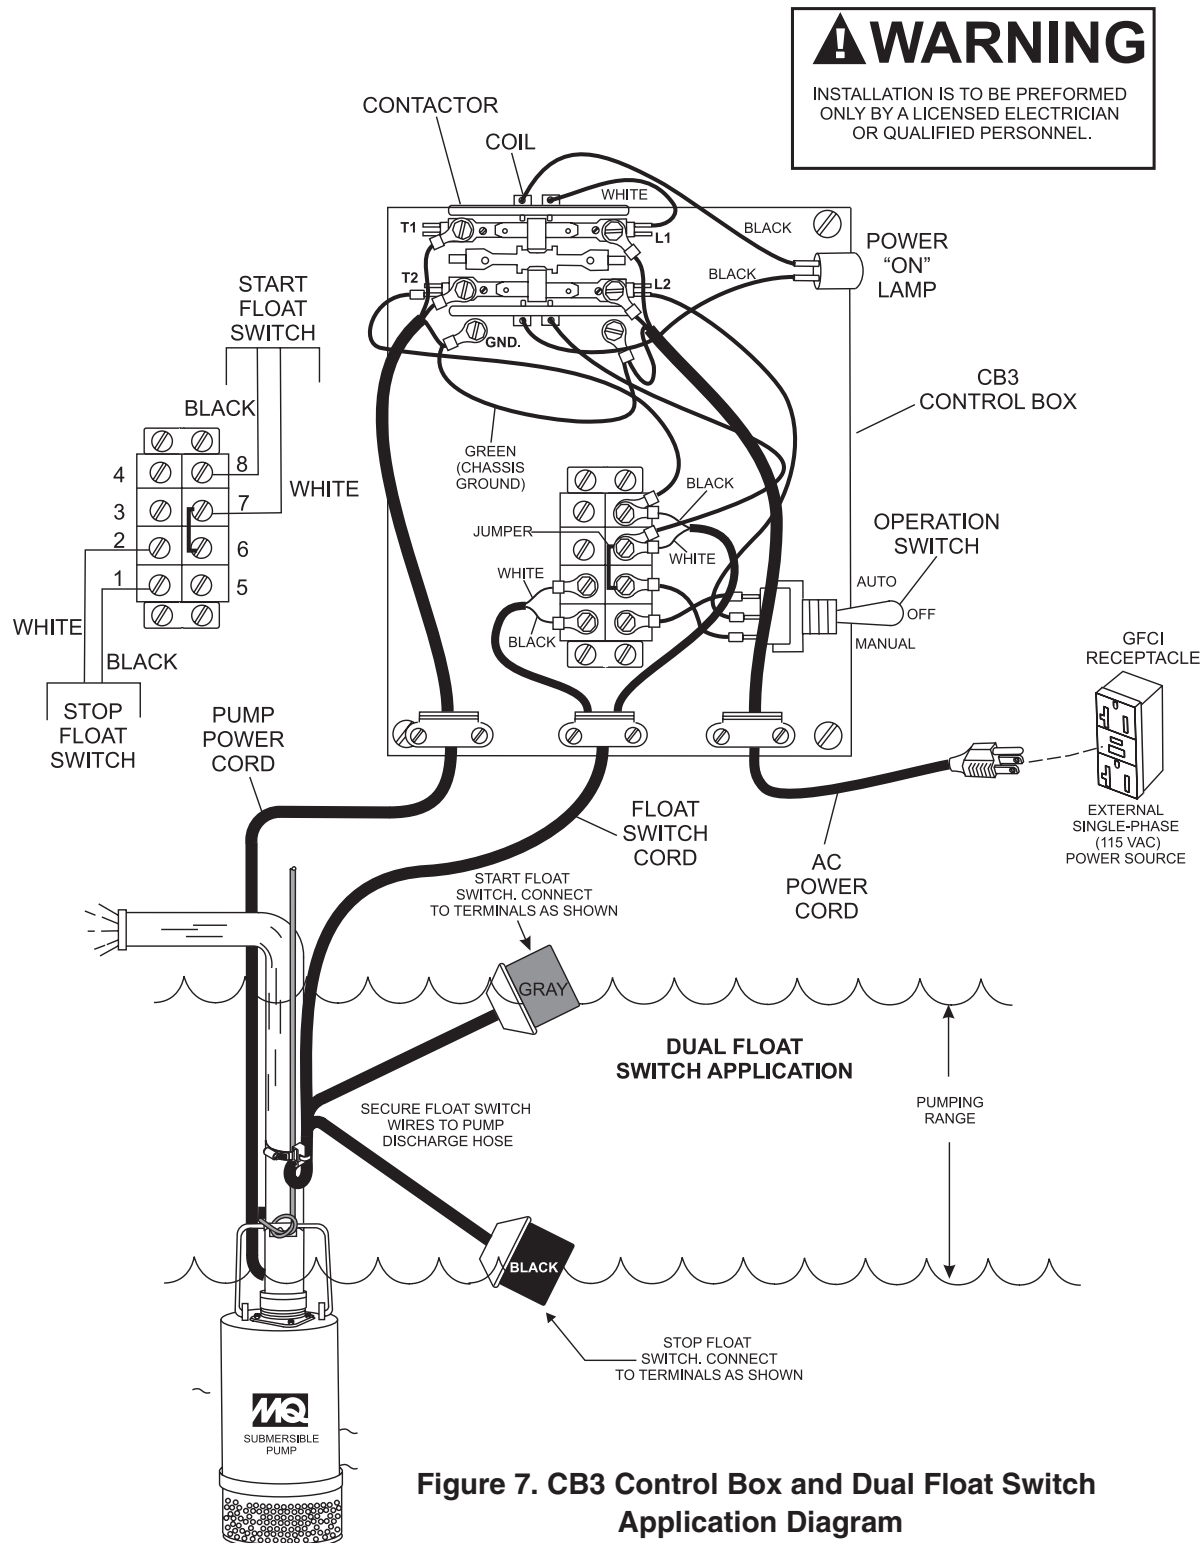

Figure 7. CB3 Control Box and Dual Float Switch Application Diagram
For special remote pumping applications of the submersible pump, a control box (**Model CB3**) may be required. This water resistant control box provides watertight housing and glands to prevent water from leaking into the box, and a float switch interface. When using the CB3 control box, only the **SW-1WOP float switch (2)** can be used (no plug, bare wires). Shown below (Figure 7) is a wiring layout of the CB3 control box. See page 22 for a wiring diagram of the control box.
3. Connect the AC power cord to the contactor as shown in Figure 7 and Table 6.
3. Connect the pump power cord to the contactor as shown in Figure 7 and Table 7.